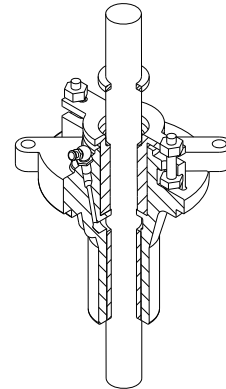

Fig. 13 Stuffing box
7. The pipe supplying sealing liquid should be fitted tightly so that no air enters. This is particularly important for vertical barrel pumps mounted in a system where a vacuum must be maintained. See fig. 13. If the liquid to be pumped is dirty or gritty, clean sealing liquid should be piped to the stuffing box in order to prevent damage to the packing and shaft sleeves. Clear sealing liquid is also required if the stuffing box materials are not completely compatible with the pump liquid. The sealing liquid should be at a pressure sufficient to ensure a flow of clean liquid into the pump but not so high as to require excessive tightening of the packing.